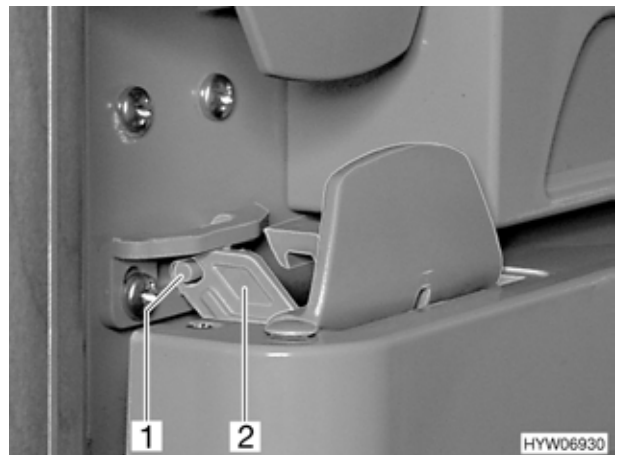

Fig. 140 Refrigerator door in the ventilation position (variant 3)
- Open lock (Fig. 140,2) and snap in at the pin (Fig. 140,1). The refrigerator door will then stay slightly open.